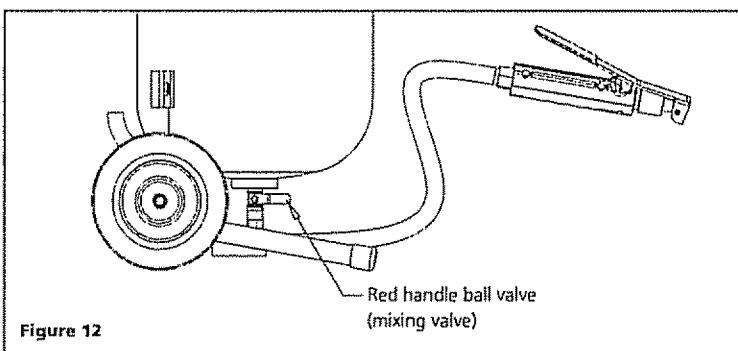

Figure 12
4. Set the red handle ball valve under the tank to a mid-point position between fully open and fully closed. This "mixing" valve will set the ratio of blast media to the air (see Figure 12)